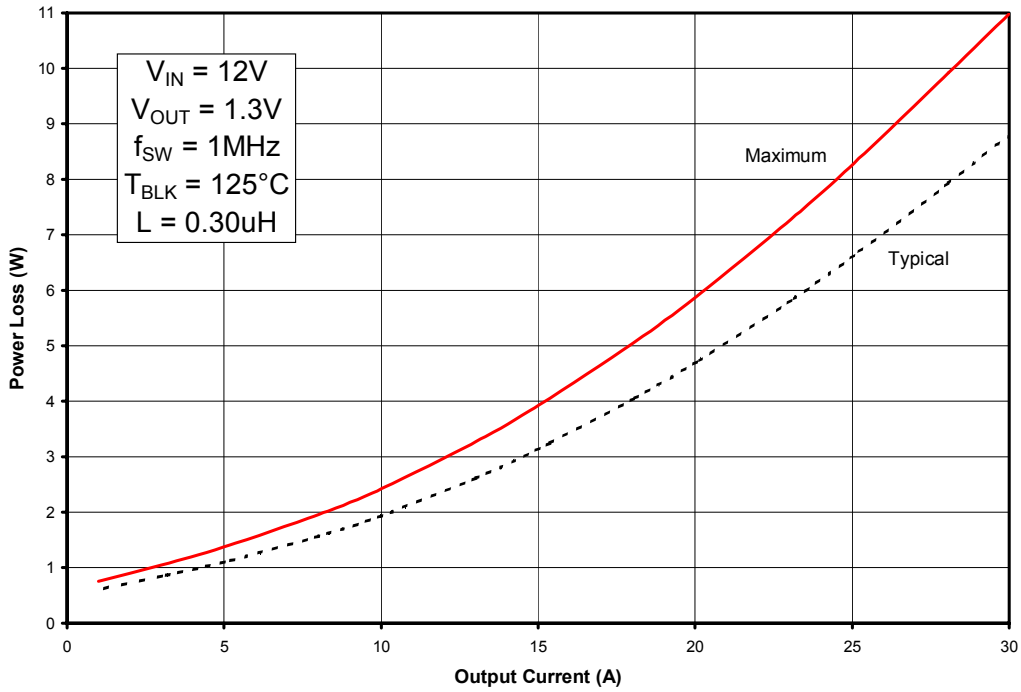
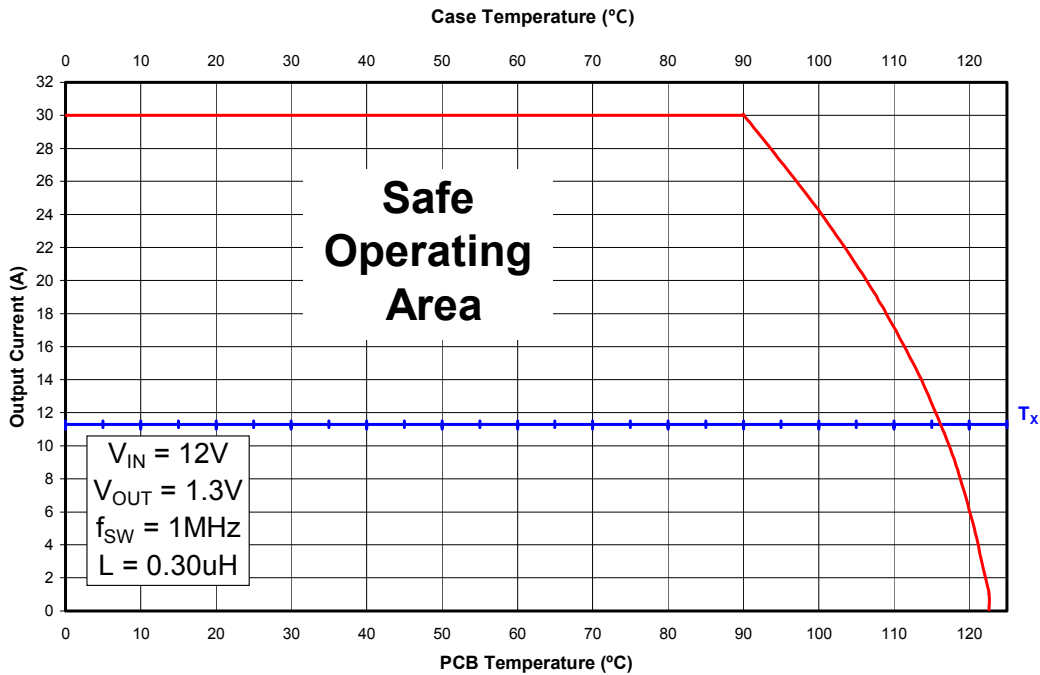
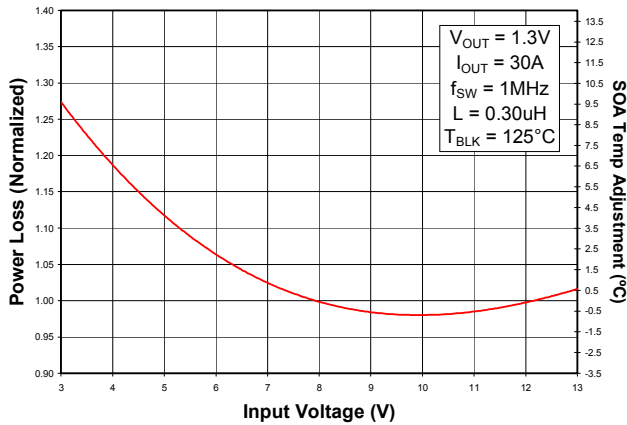

Fig. 1: Power Loss vs. Current
Fig. 2: Safe Operating Area (SOA) vs. T_{PCB} & T_{CASE}
Fig. 3: Normalized Power Loss vs. V_{IN}
To make adjustments to the power loss curves in Fig. 1, multiply the normalized value obtained from the curves in Figs. 3, 4, 5 or 6 by the value indicated on the power loss curve in Fig. 1. If multiple adjustments are required, multiply all of the normalized values together, then multiply that product by the value indicated on the power loss curve in Fig. 1. The resulting product is the final power loss based on all factors. See example no. 1.
To make adjustments to the SOA curve in Fig. 2, determine your maximum PCB Temp & Case Temp at the maximum operating current of each iP2002. Then, add the correction temperature from the normalized curves in Figs. 3, 4, 5 or 6 to the T_x axis intercept (see procedure no. 2 above) in Fig. 2. When multiple adjustments are required, add all of the temperatures together, then add the sum to the T_x axis intercept in Fig. 2. See example no. 2.
- (Fig. 1) Maximum power loss = 11W
- (Fig. 3) Normalized power loss for input voltage ≈ 0.98
- (Fig. 3) Normalized SOA Temperature for input voltage $\approx -0.6^\circ\text{C}$